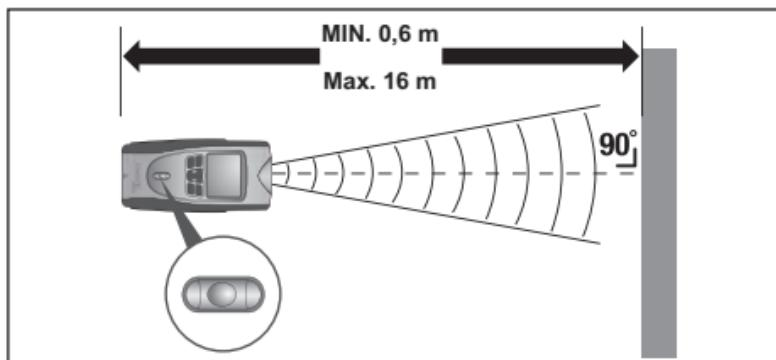
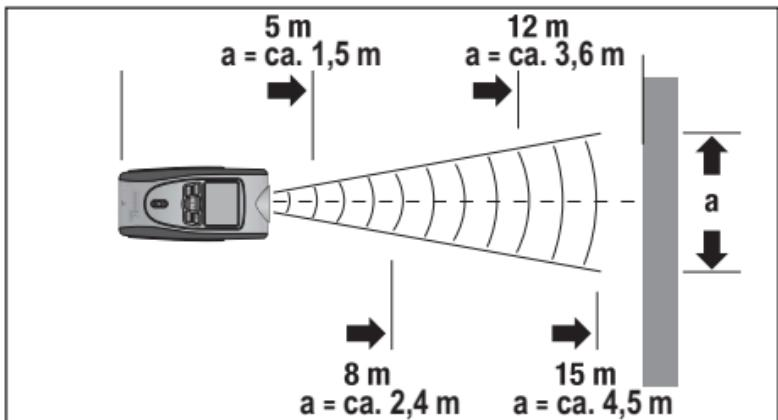

Fig. 1
Fig. 2
1. Switch the appliance on by pressing the button ON/OFF ⑩.
2. If necessary, press the MODE ⑨ button several times until the indicator  (distance measurement) appears in the display.
3. To switch between metric (Meter M) and Anglo American (Feet'/Inch'') measurement units, press the button FT/M ④.
4. Hold the appliance upright towards the wall to which you wish to measure the distance. The ultrasound sender/receiver ② must be at a right angle to the wall. For this, use the spirit level ⑧:
The bubble in the glass ⑧ must stand between the marking lines (see Fig. 1).
5. Press the button READ ⑪ briefly. A laser point is projected and an acoustic signal sounds. Hold the appliance in this position until the measured distance appears in the display ⑫.
The further you are from the wall, the wider is the area ( $a$ ) that the Distance Meter must measure by ultrasound (Fig. 2). Therefore, take care to ensure that the Distance Meter is always directed at a right angle towards a level surface (Fig. 1 and 3). Ensure that there are no objects positioned within the measurement area.